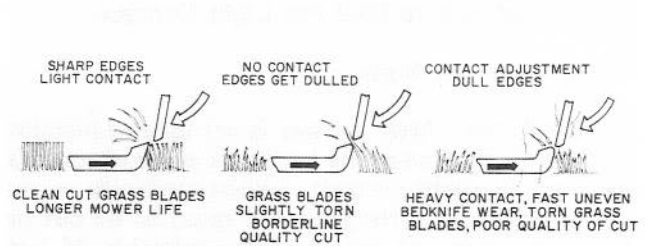

Figure 12
1. Bedknife/Reel Contact (Fig. 12) — There must be light contact between bedknife and reel to keep cutting edges sharp and to produce an excellent